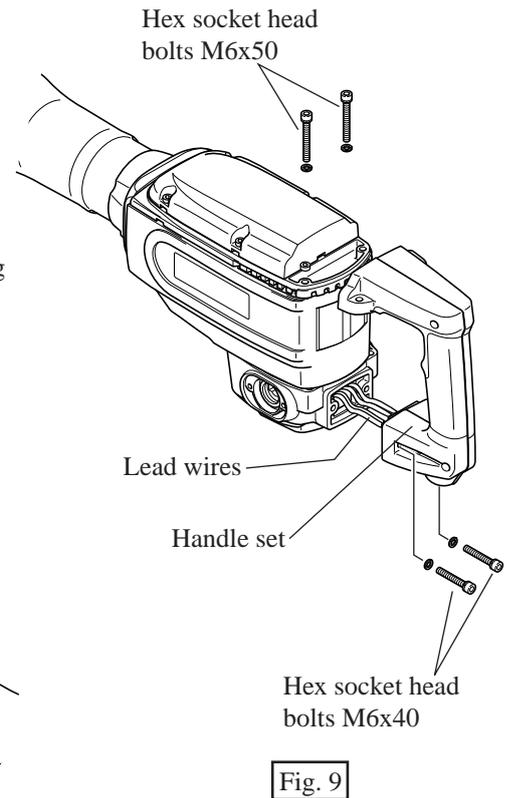

Fig. 9
- (3) Mount handle set. Fasten it with hex socket head bolts M6x50 and hex socket head bolts M6x40. See Fig. 9. Be careful, not to pinch lead wires with handle set in this step.